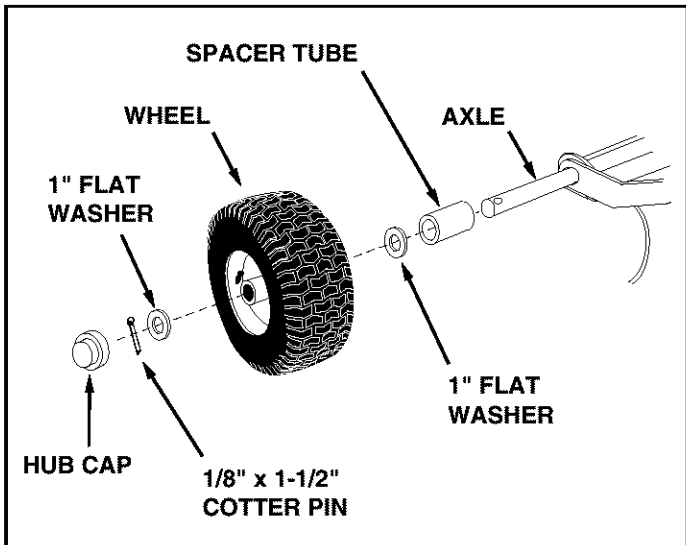

FIGURE 7
- Assemble a spacer tube onto each end of the axle as shown in figure 7.
- Assemble a 1" flat washer, a wheel (valve stem facing out), and another 1" flat washer onto the axle as shown in figure 7. Secure the wheel with a 1/8" x 1-1/2" cotter pin, spreading the ends so that a hub cap will fit over the pin. Assemble the hub cap by pressing it onto the flat washer. Repeat on other end of axle.